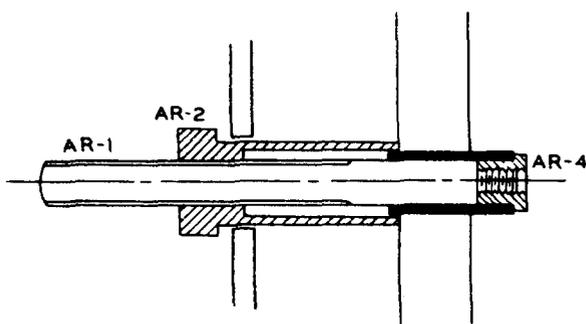

Fig. 31
(14) Tell-Tale Shaft Bearing for Early Model of Controller where Bearing is in Main Frame Casting: To remove a tell-tale shaft bearing from the main frame casting use the bearing removal tool shown in Fig. 31. The three parts of this tool assembly